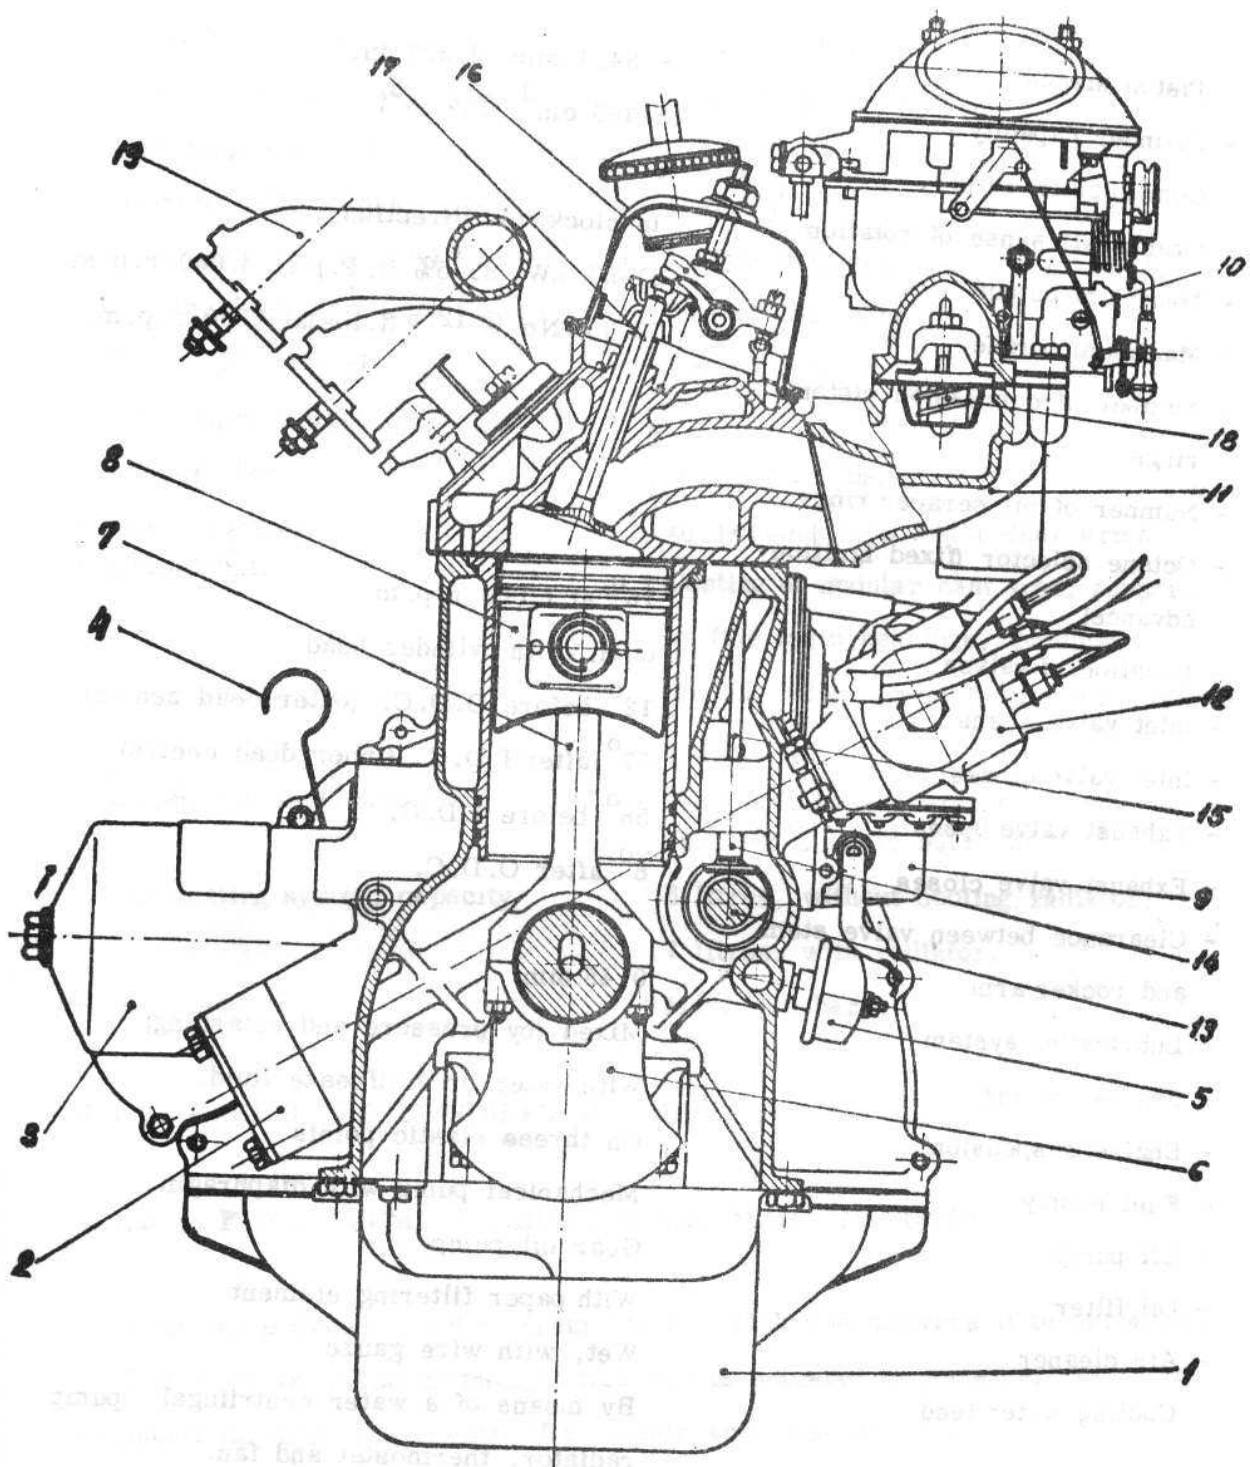

**Fig. 4.1. - LONGITUDINAL SECTION OF ARO L-25 ENGINE**
- The crankshaft, made of special high-strength nodular cast iron, is supported on 5 shell bearings, while the camshaft is made of the same special cast iron and rests on 3 anti-friction bushes (see fig. 4.1.).